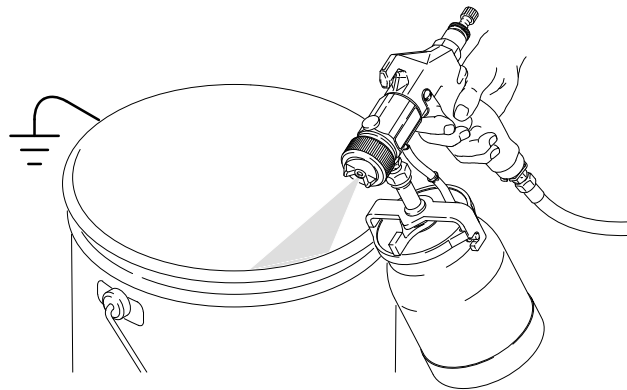

Fig. 16
6. Point the gun down into a container and flush until the solvent runs clean. See Fig. 16.